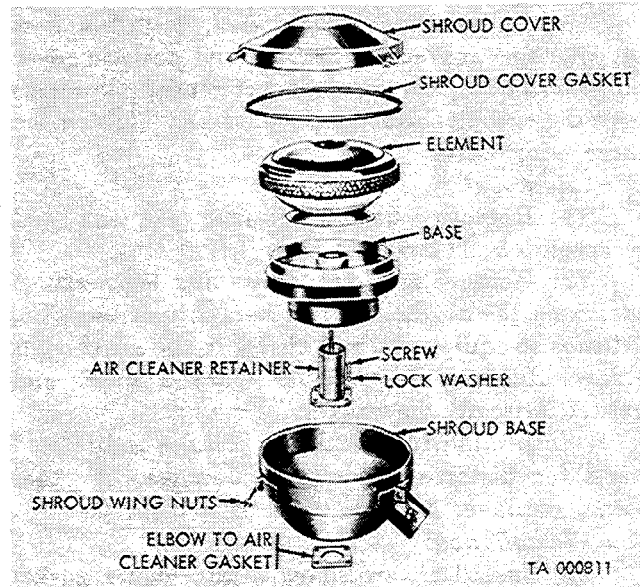

Figure 2-99. Carburetor air cleaner with shroud
a. Description. The carburetor air cleaner is an oil bath type with a replaceable element (fig. 2-99). Its purpose is to remove dirt and other foreign matter from the air before it enters the carburetor. The air cleaner shroud provided on vehicles of early manufacturers was discontinued on later vehicles. Maintenance of both types of air cleaner is described in this section.
(1) Install a new elbow-to-air cleaner gasket (fig. 2-99) on the air cleaner elbow, aligning the screw holes.